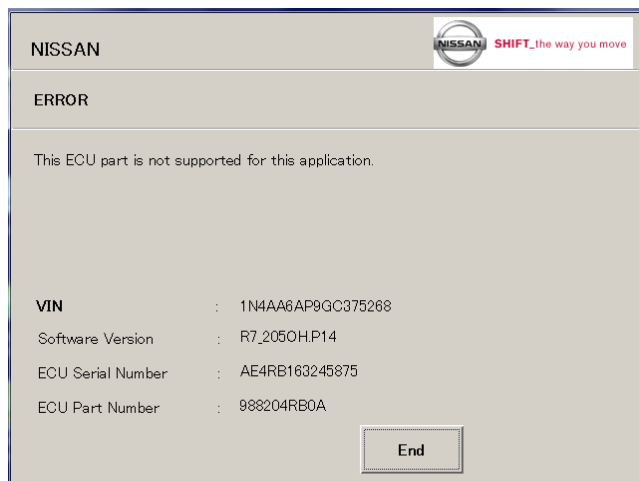

Figure 20
13. Is the screen in Figure 20 displayed?